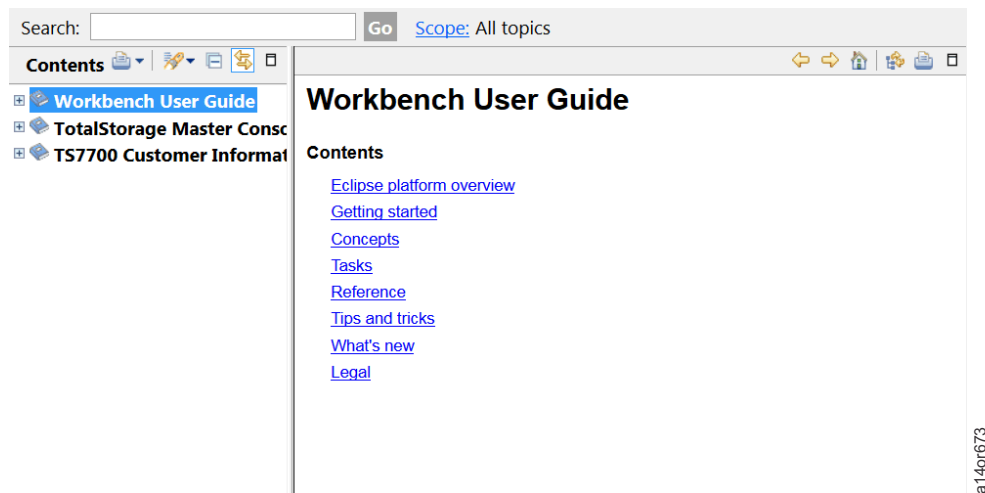

Figure 254. Launching IBM Knowledge Center window.
2. From the Main Menu, select **Browser Functions > Launch IBM Knowledge Center**. A browser window appears, as seen in Figure 254 on page 217. This can take as long as 15 seconds to open.